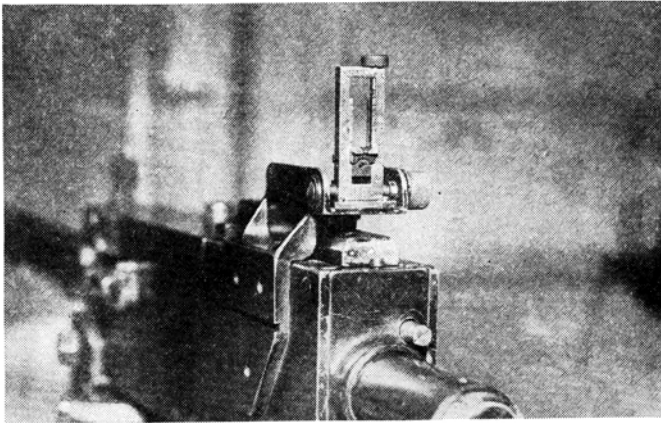

FIGURE 2.—Rear sight.
(1) The rear sight (fig. 2) is of conventional type. It consists of a rear sight leaf, carrying a peep in the slide mounting, pivoted on the rear sight base, and adjustable for windage. The rear sight base mounts the rear sight leaf and rear sight leaf spring. It is secured to the left side plate of the receiver by three screws in the flange of the base.
(2) The rear sight leaf is graduated for elevation in 100yard divisions up to 2,400 yards. The peep of the rear sight slide is 0.081 inch in diameter. Motion of the rear sight slide is accomplished by rotation of the elevating screw knob.